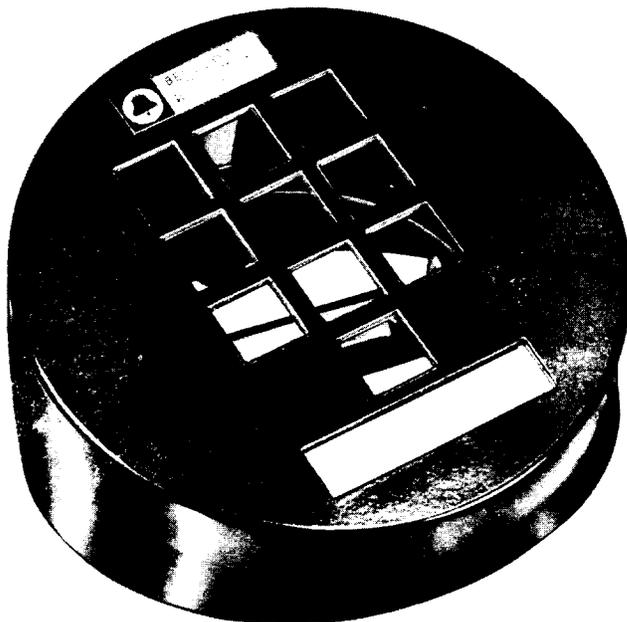

Fig. 5—51A Dial Mounting
2.14 The 51A dial mounting (Fig. 5) is designed for mounting the 25B3 or the 10-button 25Y3 TOUCH-TONE dial. It consists of a plastic housing, adapter, and terminal block.